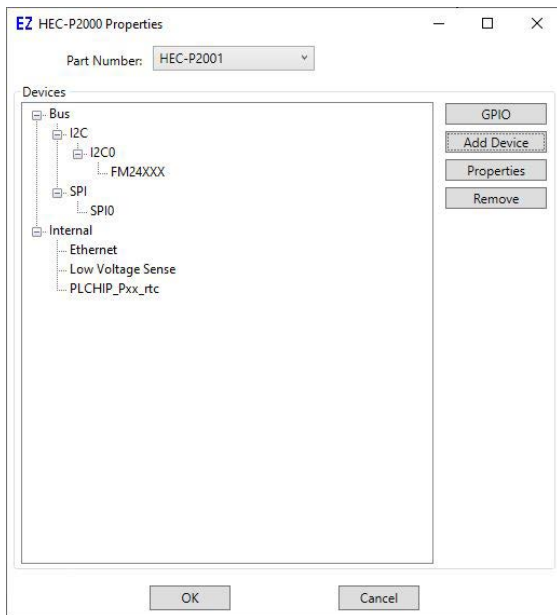

Figure 30-1
2. Click the **PROPERTIES** button. The *target's Properties* dialog will open. Refer to Figure 30-1.